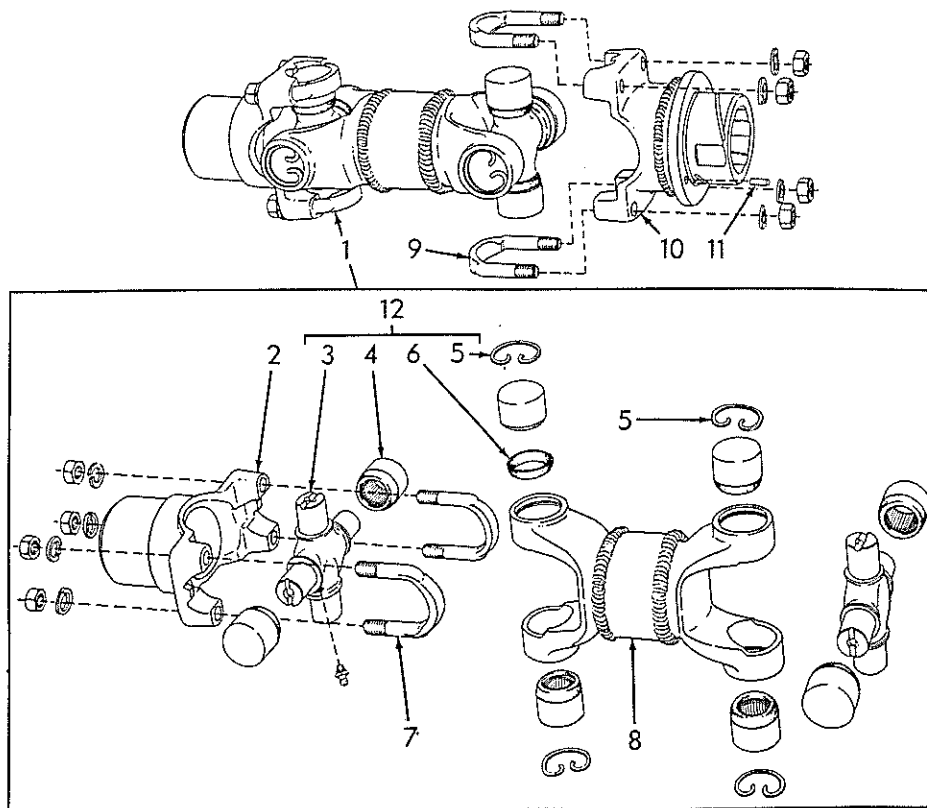
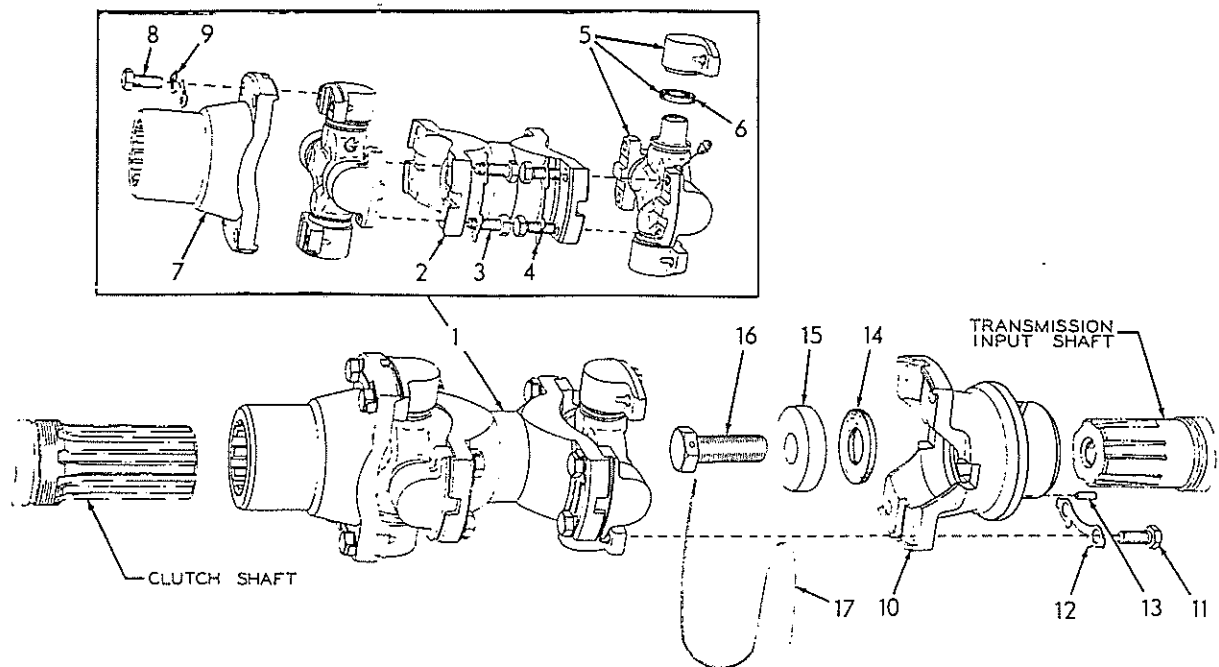

Fig. 23 "Spicer" Universal Joint Assembly
Fig. 24 "Mechanics" Universal Joint Assembly (T-14022)
"Spicer" universal joint, Fig. 23 used on following models: Tractor Serial No. 7191 thru 8190; Tractor Serial No. 9773 thru 10171. "Mechanics" universal joint, Fig. 24, used on all other models. Use applicable repair procedure.
- b. Remove U-bolts, Fig. 23 (9) from front and rear yokes; remove bearing caps held in position by U-bolts. Pry front yoke forward and remove universal joint.
- c. Put universal joint in a vise; remove snap rings, Fig. 23 (5). Drive spider one direction until opposite bearing cap may be removed; repeat operation on other side and other end to remove all bearing caps.
- a. Coat needle bearings with grease to hold them in position in bearing caps; start two bearing caps, Fig. 23 (4) in holes in one end of shaft (8). Install shaft in vise; close vise until bearing
caps are approximately half in their holes. Install gasket, Fig. 23 (6) on two opposing bearing journals on cross journal (3); install cross journal in shaft, centered between bearing caps. Close vise to press bearing caps on cross journal; turn cross journal while closing vise to make certain bearing caps are properly aligned. Remove shaft from vise; drive each bearing cap down until snap rings (5) can be installed.
- c. Install gasket Fig. 23 (6) and bearing cap (4) on other bearing journals; attach shaft assembly to front and rear yokes. Torque U-bolt nuts to 20 to 24 lbs. ft.
b. Refer to Fig. 24, unlock and remove capscrews attaching universal joint to front and rear yokes; pry front yoke forward and remove universal joint.
c. Refer to Fig. 24, unlock and remove capscrews (3); remove front and rear spider assemblies (5) from connecting yoke (2).
- a. Refer to Fig. 24, install new seal washer (6) in each bearing cap; lubricate bearings with light coat of grease and install bearing caps on